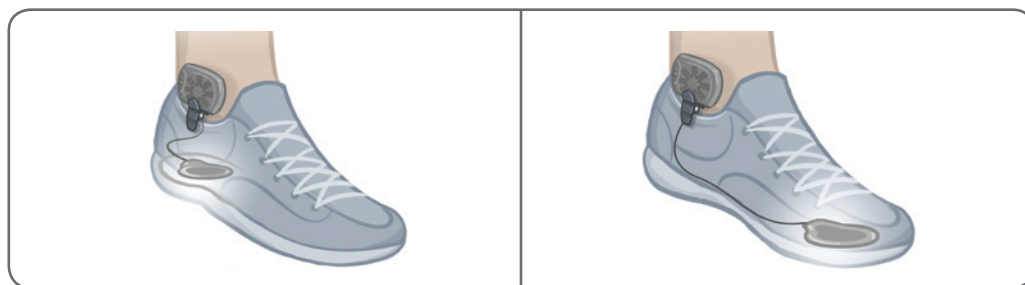

Figure 8-15: Final Position of the Foot Sensor Attached to the Shoe
5. Clamp the Foot Sensor transmitter on to the inner rim of the shoe. Face the starburst logo on the transmitter away from the ankle. See Figure 8-15.
6. Cover the pressure sensor with the insole. Tuck any excess wire under the insole. See Figure 8-15.